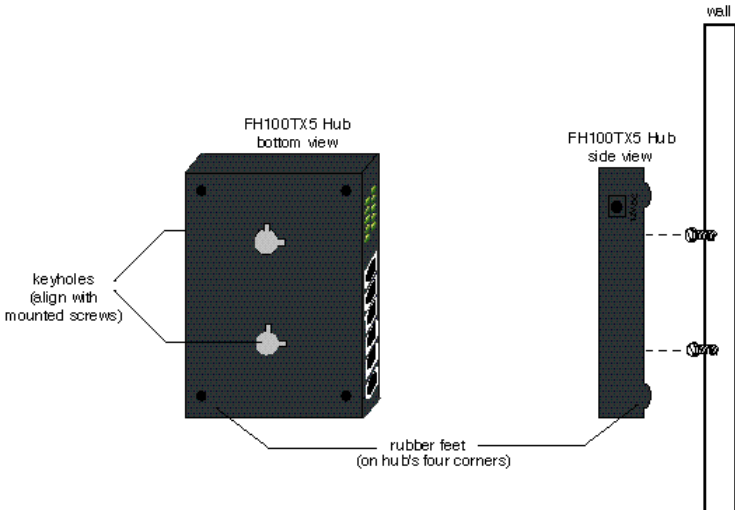

Figure 2-5 Wall-mounting a FriendlyNet Fast Ethernet Hub
- 5 Hang or place the hub on the screws. See Figure 2-5.